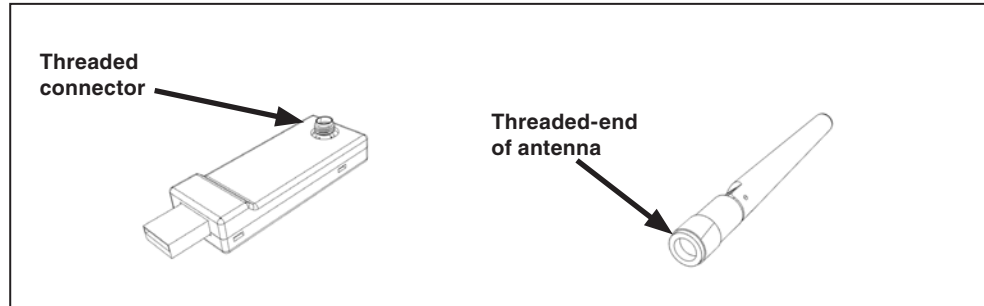

Figure 10. Connecting the antenna to the USB transceiver.
STEP 1. Screw the threaded bottom of the antenna onto the threaded connector on the USB transceiver. See Figure 10.